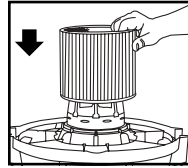

FIGURE 17
22. With the tank cover in an upside down position, slide the cartridge filter down over the lid cage, pushing until the filter seals against the cover. **FIGURE 17.**